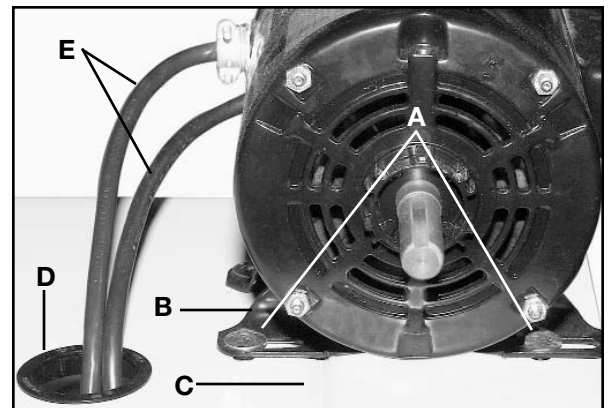

Fig. 4
Attach the motor to the stand using four 5/16" x 3/4" carriage bolts (A) Fig. 4 (two of which are shown inserted) through the motor plate (B) and stand (C). Secure the motor to the stand (Fig. 4) from underneath, using external tooth washers (which should be placed against the underside of the shelf), flat washers and 5/16" hex nuts (F). **NOTE:** Partially tighten the motor to the stand until after belt tension has been adjusted and the pulley has been aligned. Place grommet (D) in large hole in top shelf (Fig. 4). Insert switch cord and power cord (E) through the hole.